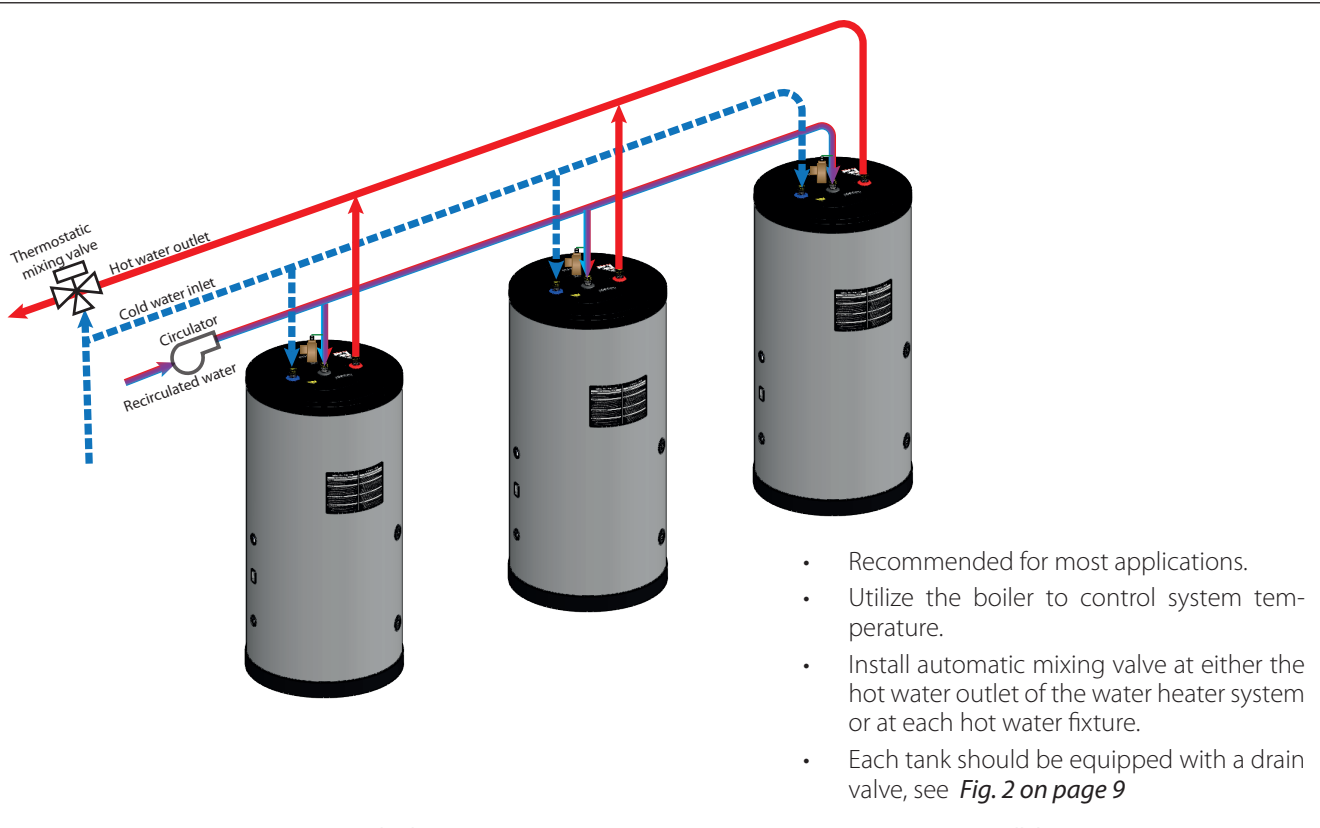
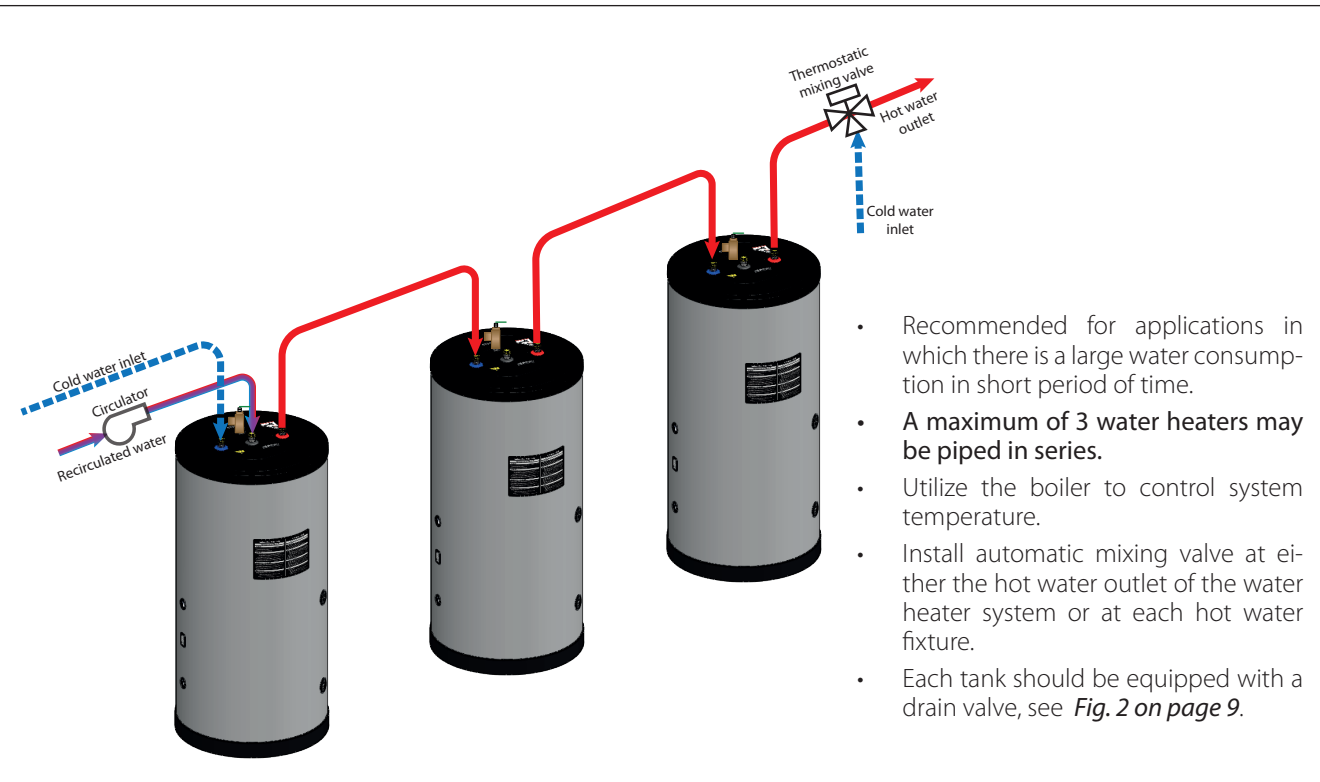

Fig. 4 - Multiple CARDINAL Series Water Heater System Domestic Piping - Parallel
Fig. 5 - CARDINAL System Piping with Zone Circulators
- For Multiple water heater domestic and boiler piping, refer to *Fig. 4 on page 10 and Fig. 5 on page 10*, and *Fig. 10 on page 13 and Fig. 11 on page 13*.